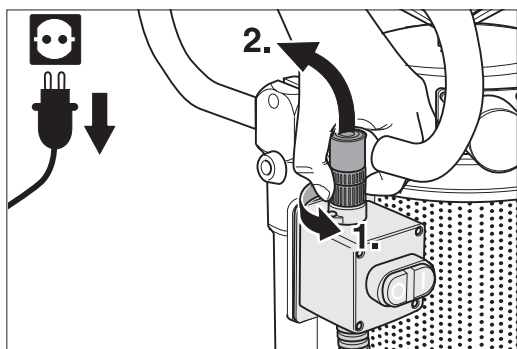

Fig. 18 Loosen the ring nut and remove the plug from the mains.
- 3 Loosen the cable plug of the sensor on the on/off switch by turning the ring nut; pull out plug (Fig. 18).